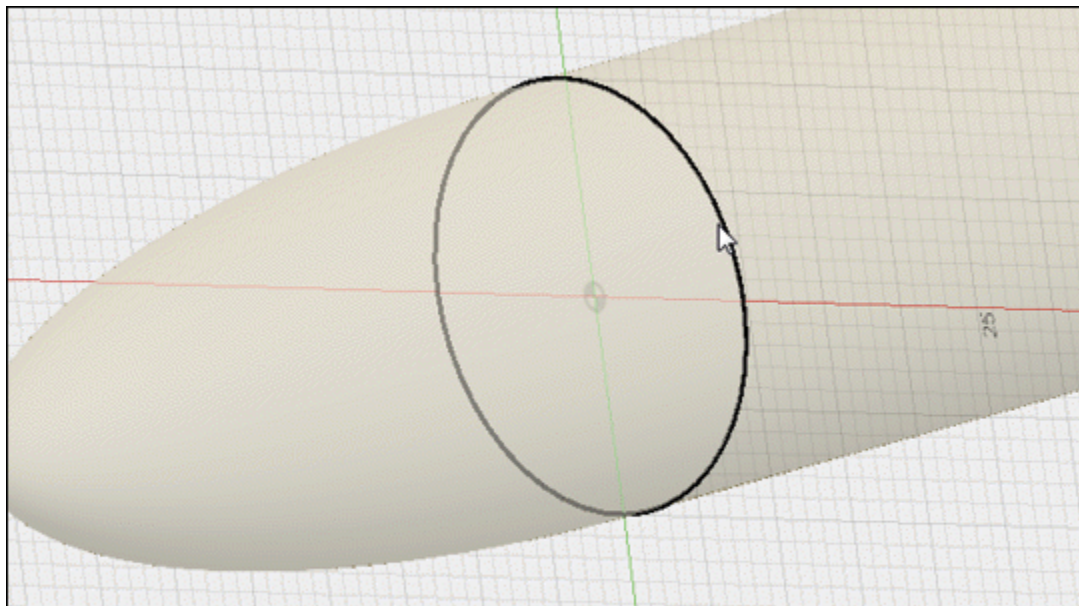

Figure-63. Selecting plane for sketch
- Click on **Center Rectangle** tool of **CREATE** drop-down and select the **YZ** plane for sketch; refer to Figure-63.